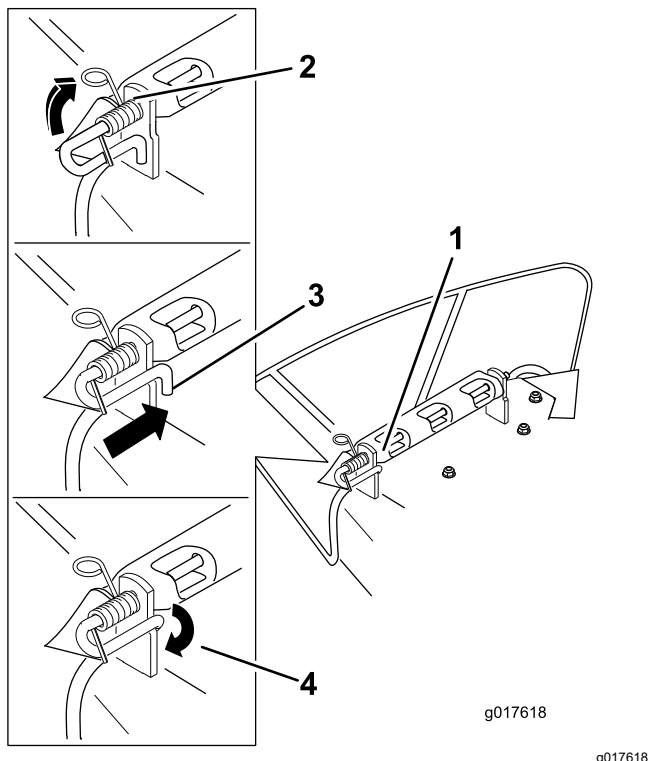

Figure 80
4. Position the new discharge deflector with the bracket ends between the welded brackets on the deck as shown in Figure 80.
6. Position the spring on the rod as shown in Figure 80 so the shorter spring end is coming from under the rod before the bend and going over the rod as it returns from the bend.
7. Lift the loop end of the spring and place it into the notch on the deflector bracket (Figure 80).
8. Secure the rod and spring assembly by twisting it so the short end of the rod is placed behind the front bracket welded to the deck (Figure 80).